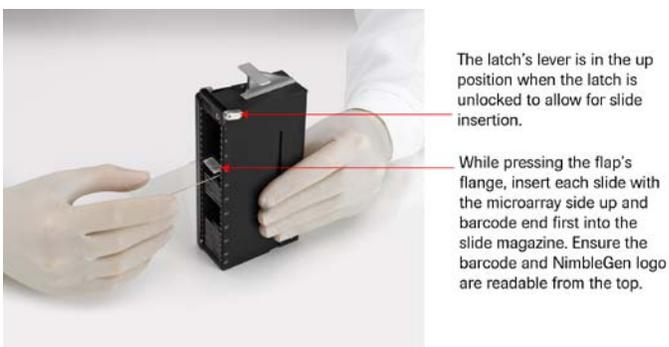

Figure 1: Inserting Slides into the Slide Magazine
3. Insert slides into the Slide Magazine as described in Figure 1. Numbered slots provide spacing for inserting slides.